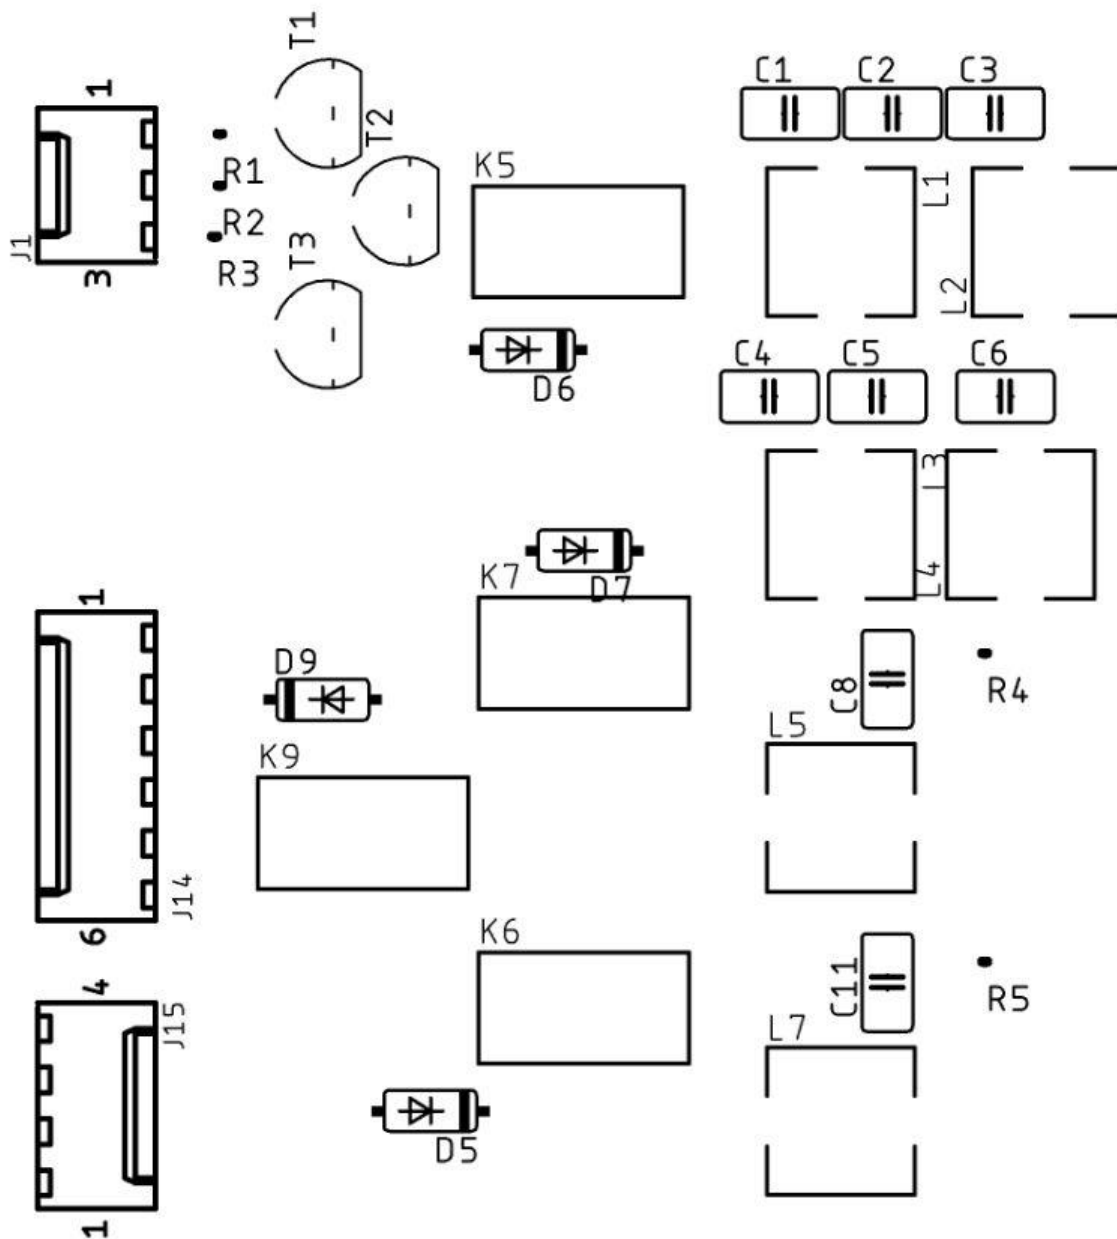

Figure 4
- Connect the wiring cable for J15 (See Figure 4 for connector location)
Also see Figure 4